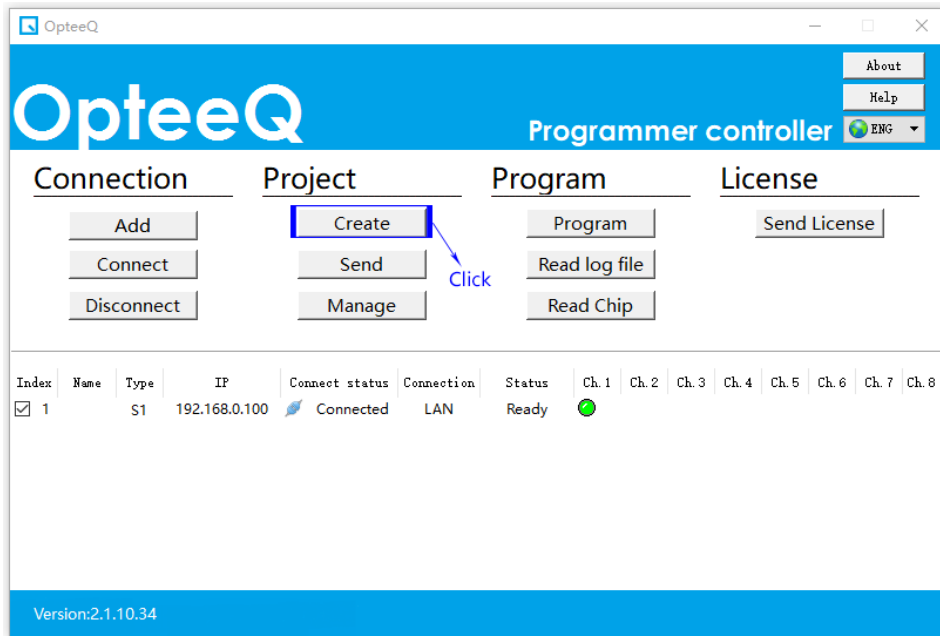

Figure 4.11: Step 1 - Project Creation
- 1) Step 1: Click "Create Project" (as shown in Figure 4.11).